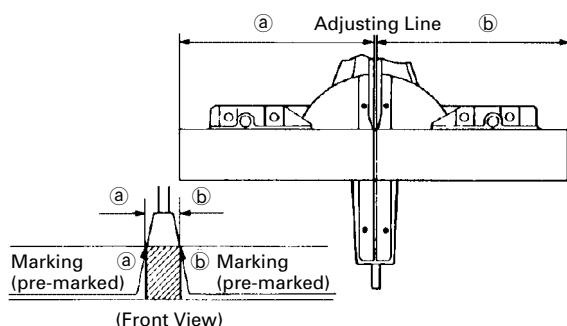

Fig. 20
- (1) As shown in Fig. 20 the width of the saw blade is the width of the cut. Therefore, slide the workpiece to the right (viewed from the operator's position) when length **b** is desired, or to the left when length **a** is desired.
- (2) Once the saw blade reaches maximum speed, push the handle down carefully until the saw blade approaches the workpiece.
- (3) Once the saw blade contacts the workpiece, push the handle down gradually to cut into the workpiece.
- (4) After cutting the workpiece to the desired depth, turn the power tool OFF and let the saw blade stop completely before raising the handle from the workpiece to return it to the full retract position.